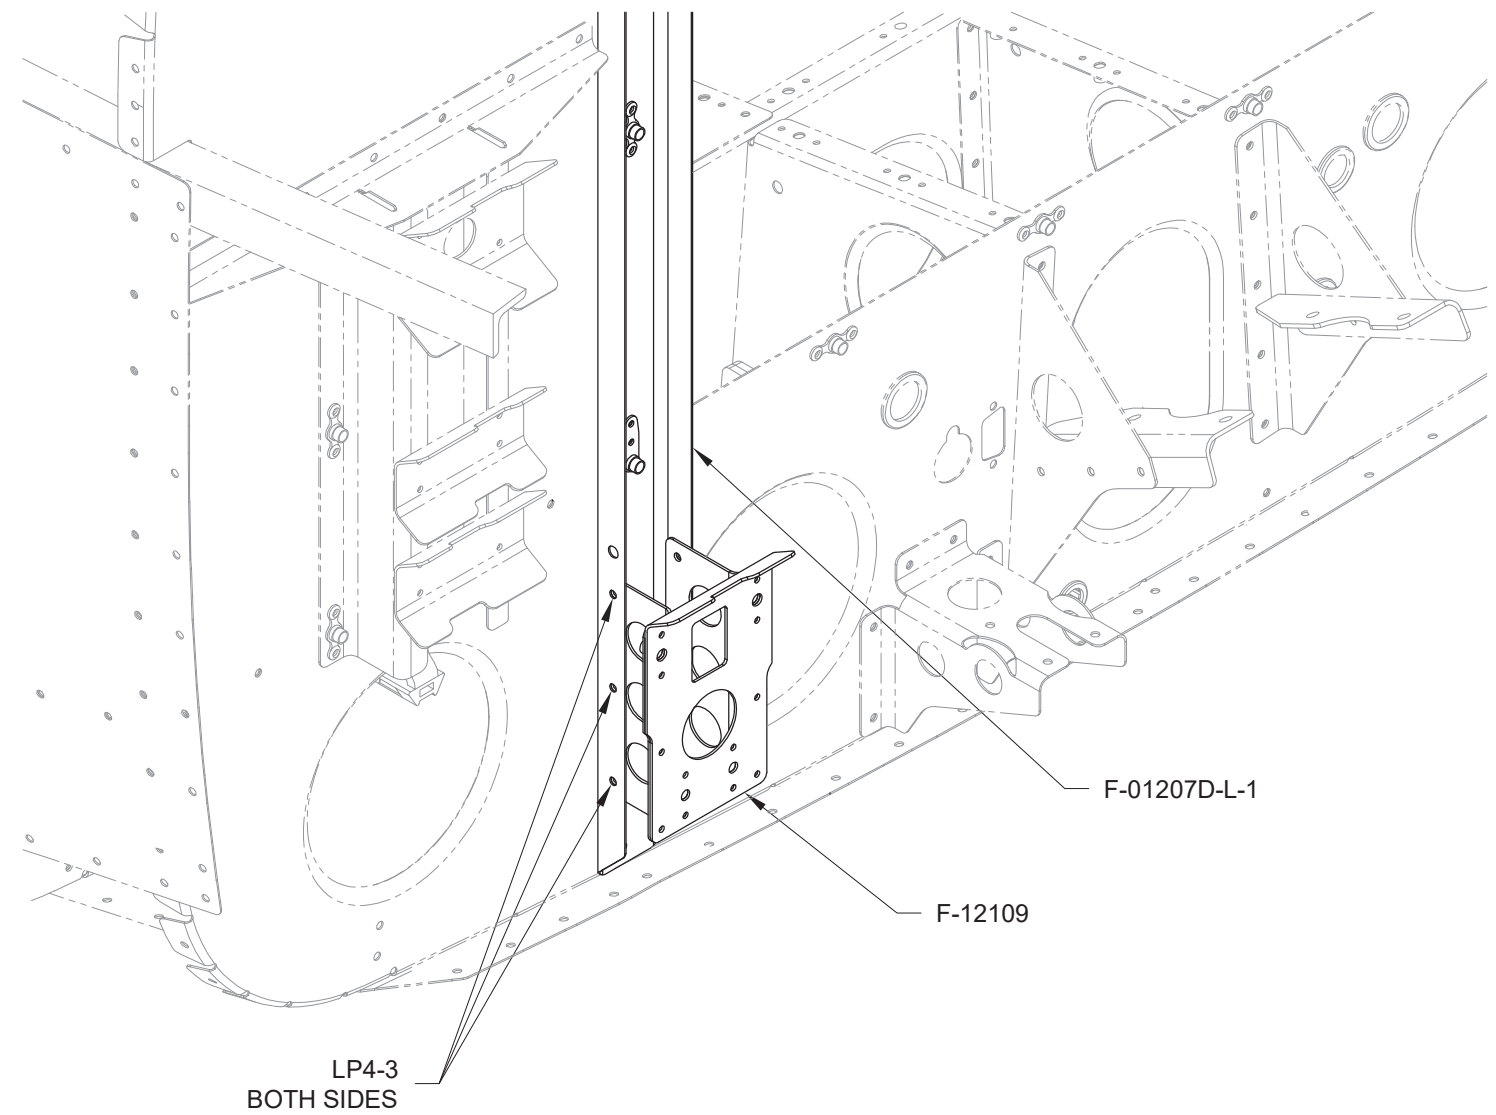

FIGURE 2: F-12109 ASSEMBLY INSTALLATION
Step 4: Rivet the F-12109 to the F-01207D-L-1 as shown in Figure 2.